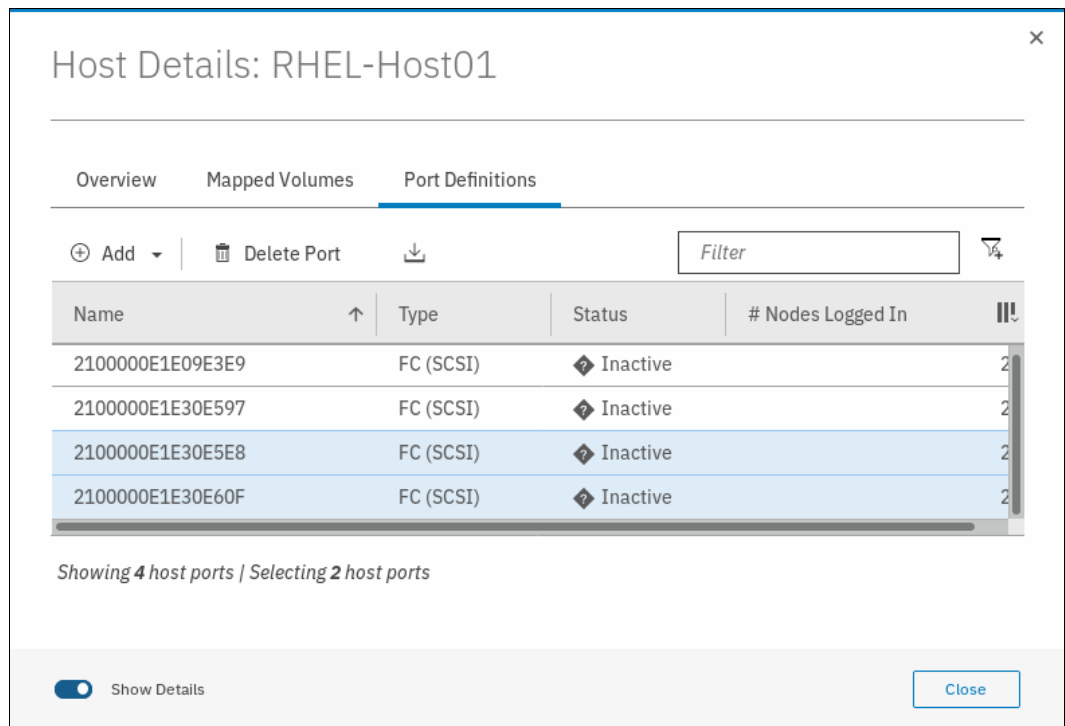

Figure 8-32 Delete Port operation
2. Select **Delete Port**, as shown in Figure 8-32.